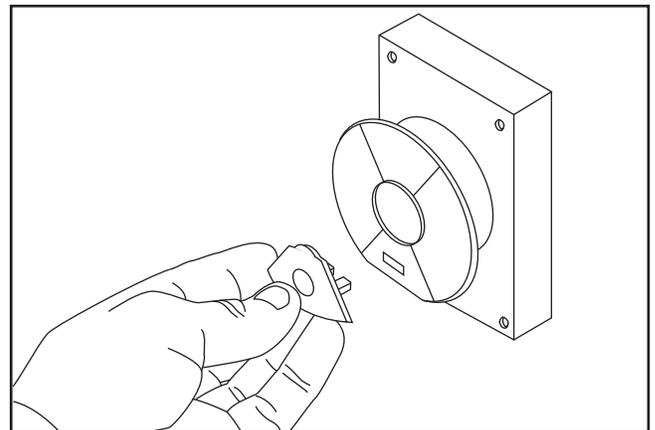

Figure 62. Example of removing disabling key from ON/OFF switch.
6. Remove switch disabling key, as shown in **Figure 62**.